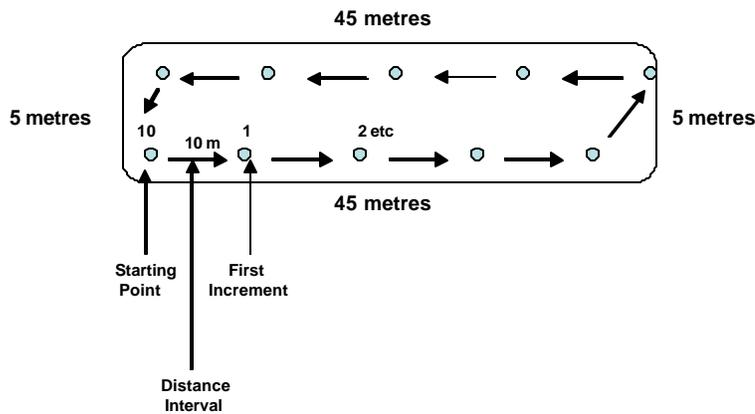

Figure 1. Overhead view of a compost pile and a schematic of increment (sample) collection including distance intervals and increment collection points
- Figure 1 depicts distance intervals and increment collection points